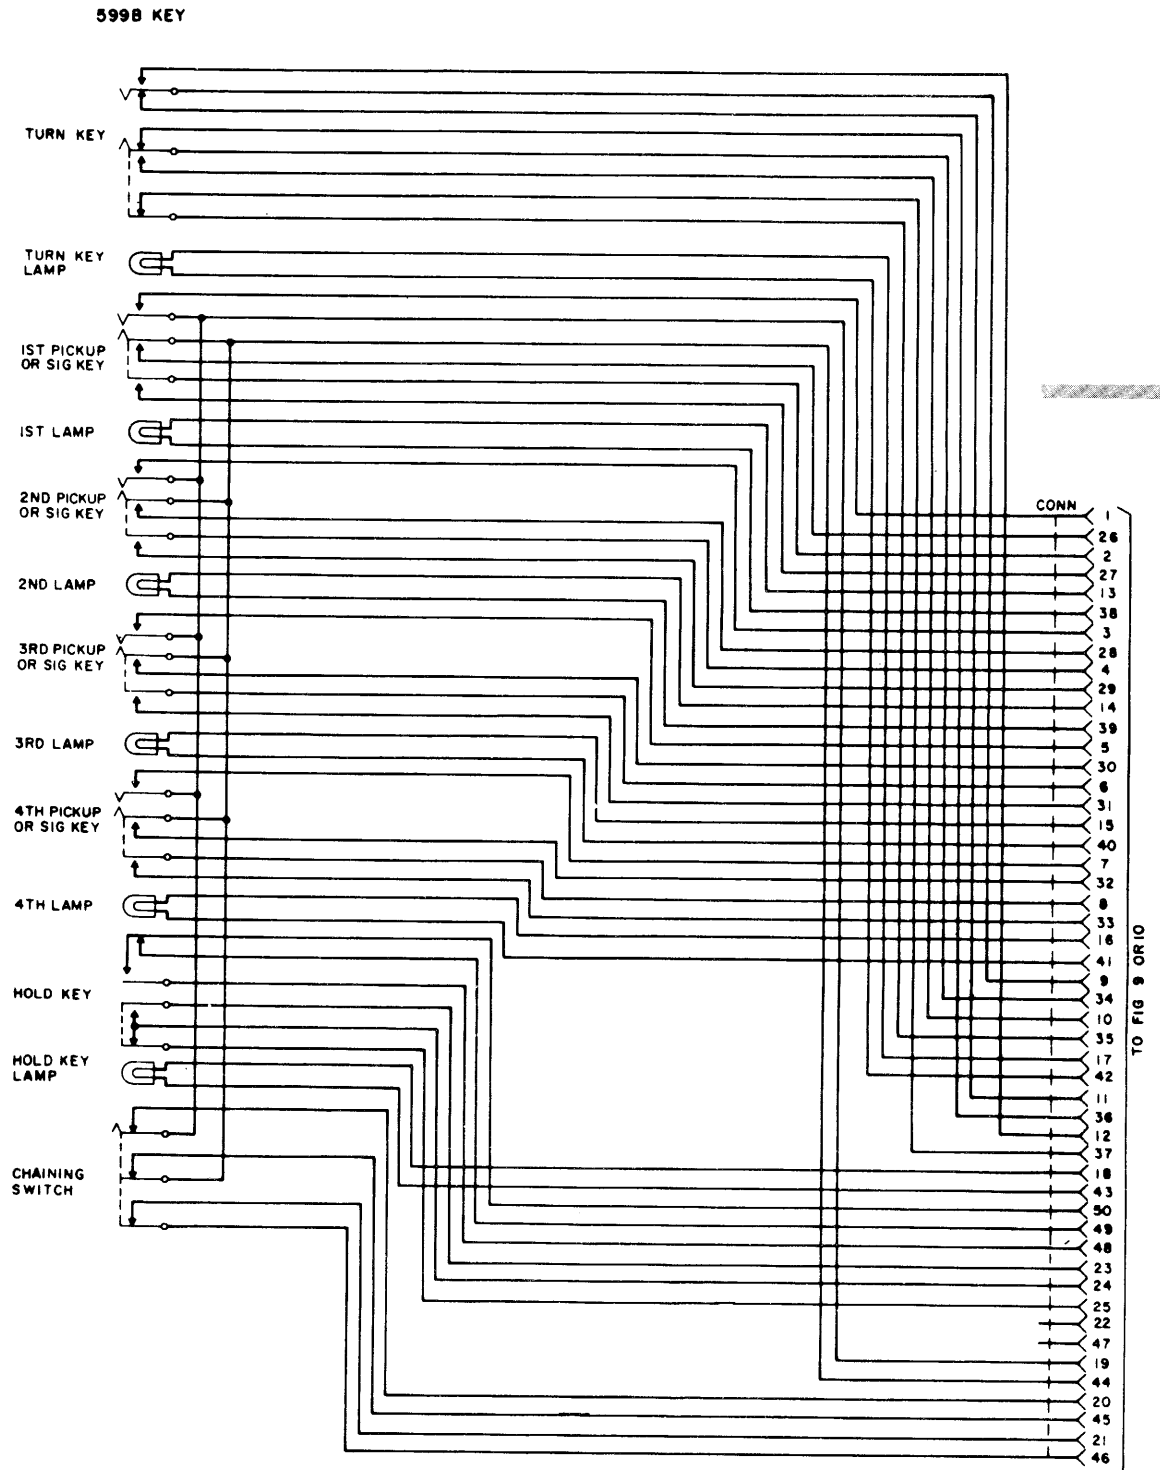

Fig. 3 — 599B Key
- Fig. 3 — 599B Key
* O-BK lead on pin 37 in the second and third key units (Fig. 3 and 4) shall be connected to the signaling ground at the apparatus cabinet.